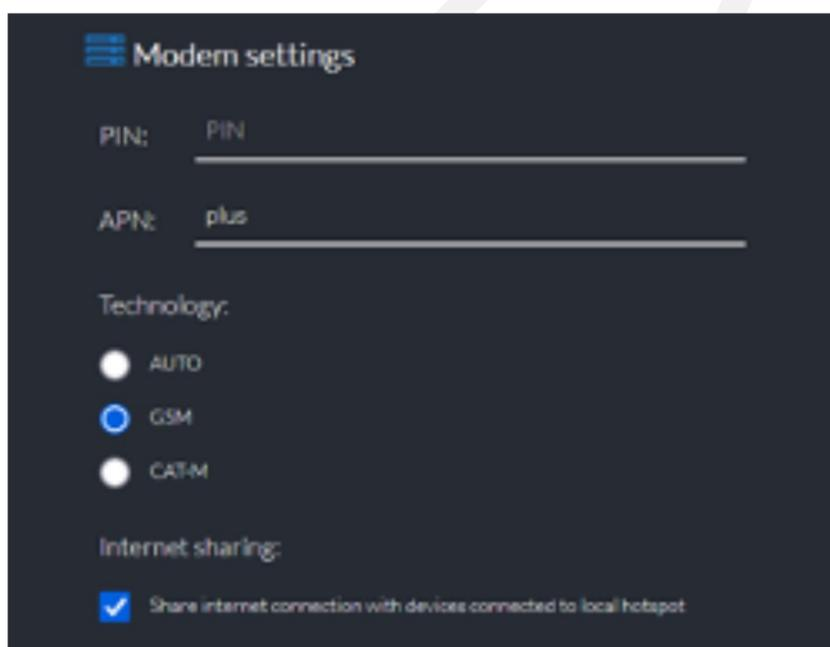

Fig. 5
f) GSM Modem Settings (see Figure 5)